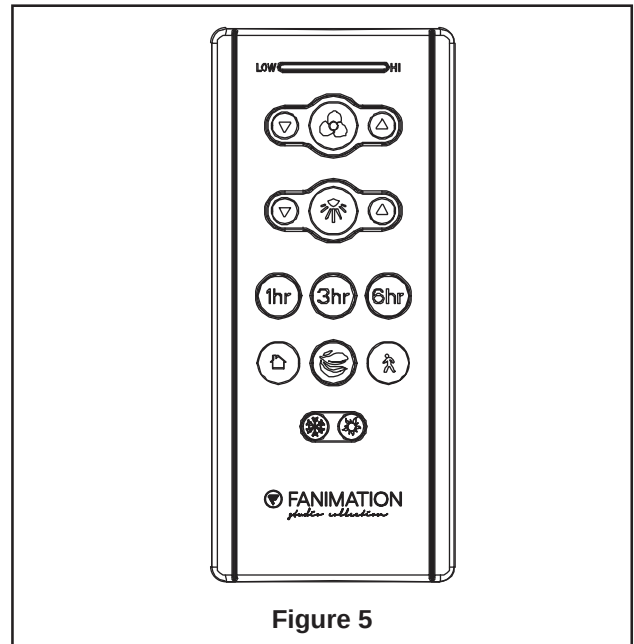

Figure 5
- ☐ 5. Assemble the glass to the light kit assembly by twisting in a clockwise direction. Do not overtighten. (Figure 5)
7. Remote functions: (Figure 5)